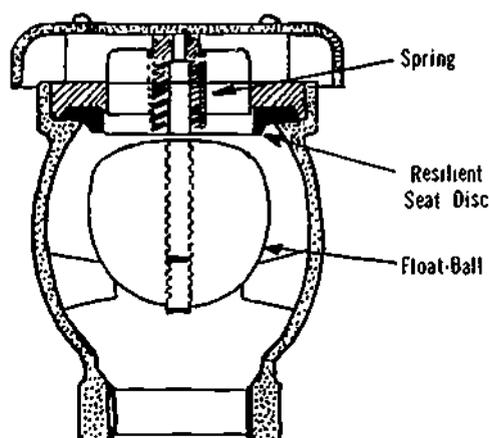

Figure 30-4. Pressure Type Vacuum Breaker
- b) Pressure Type Vacuum Breaker and Check Valve (Figure 30-4).